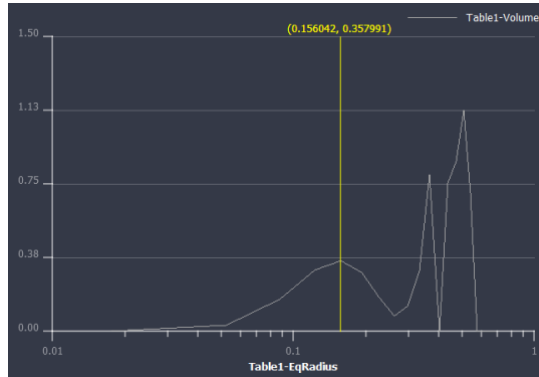
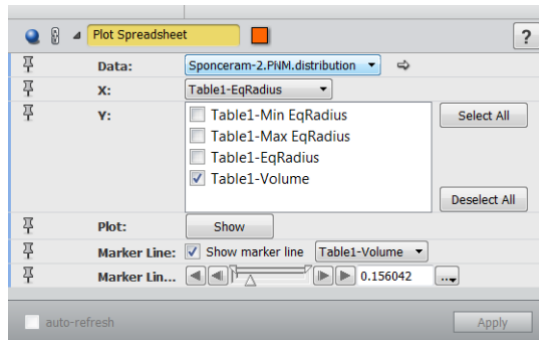

Figure 20.21: Pore Size Distribution
Figure 20.22: Plot Spreadsheet
- The distribution curve as shown in Figure 20.21 is displayed using a *Plot Spreadsheet* module (see Figure 20.22). The plot shows that the majority of the pore space is filled by big pores, but the predominant small pores have a radius around 0.15.